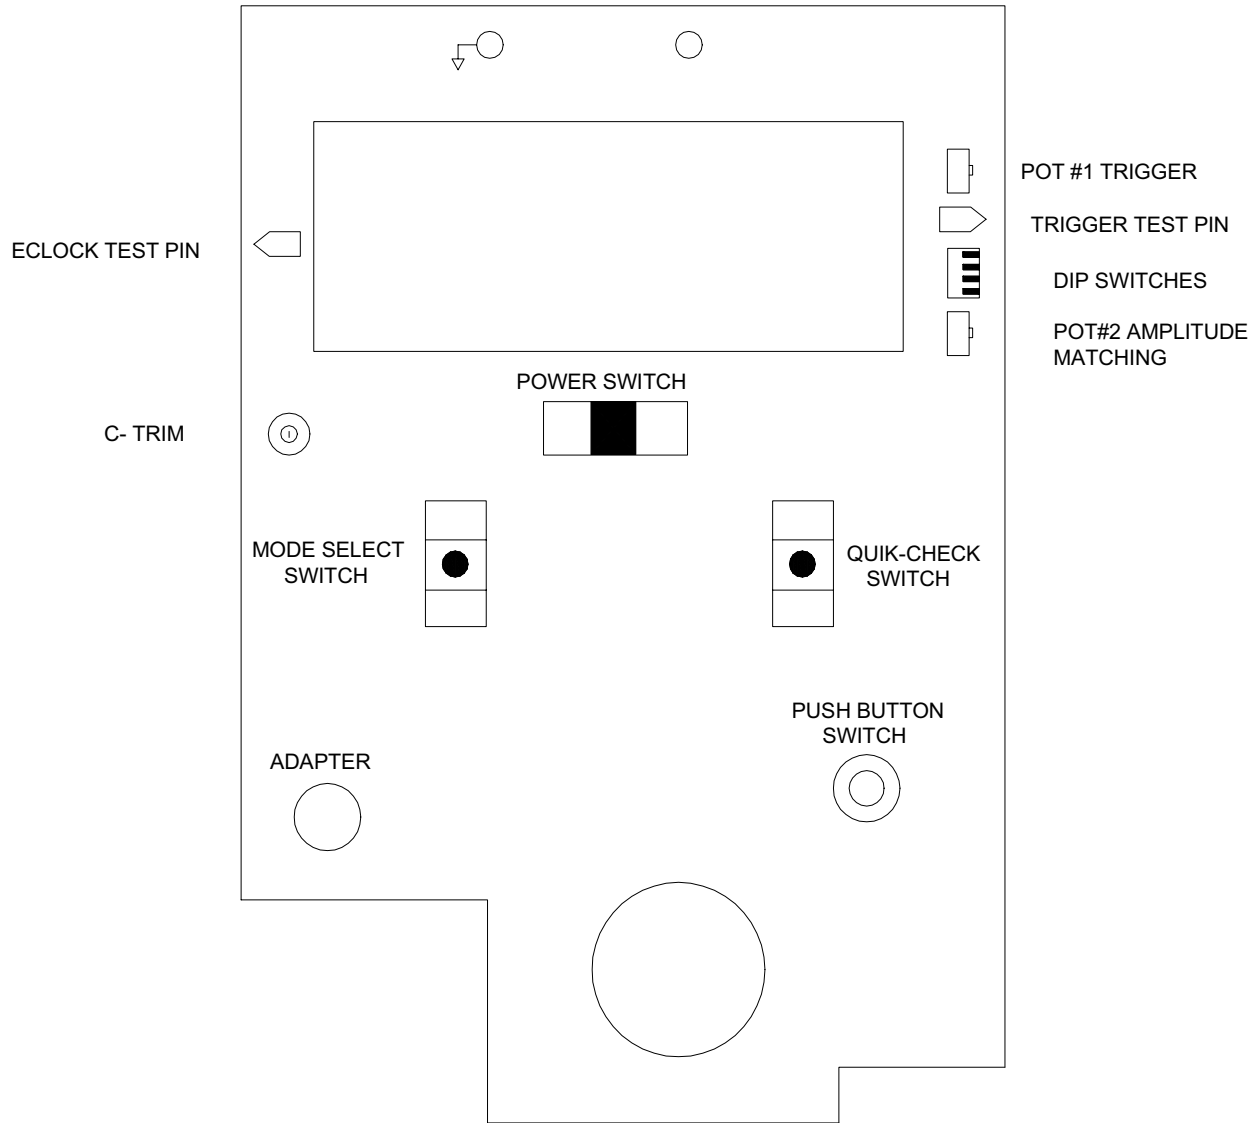

FIGURE 1
- h) Adjust C-TRIM until the frequency Counter is reading 2MHz ± 5 Hz. (Refer to Figure 1)
- e) Adjust POT #2 (Amplitude Matching Pot) until the Sine Wave is 6Vpp. (Refer to Figure 1)
- d) Short the inputs and connect the ground of the scope to the short. Connect the scope probe to the TRIGGER TEST PIN on the analog (middle) board of the 941/942. (Refer to Figure 1)
- g) Set the scope for DC coupling and adjust POT #1 (Trigger Pot) until the horizontal line is on the ground line of the scope. (Refer to Figure 1)